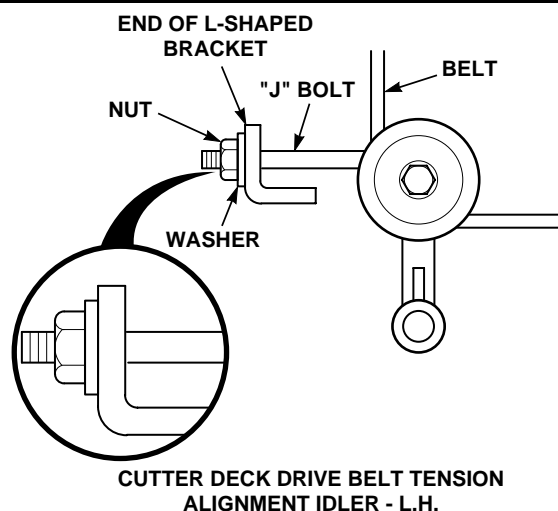

Figure 1
- Adjust the cutter deck drive belt using a belt tension gauge. Adjust the belt so that the belt moves 1/2" with 10 pounds of pressure. Adjust the tension by tightening or loosening the J-bolt nut. (See figure 1)